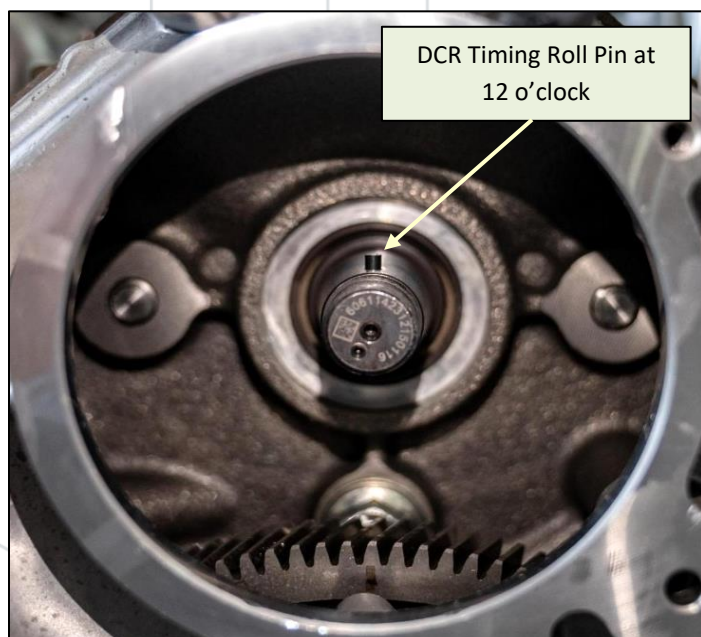

Figure 26: DCR Roll Pin at 12 o'clock
9. **Fuel Pump Timing:** Turn the DCR pump shaft until the alignment pin is pointing straight up or in the 12 o'clock position as shown in Figure 26.